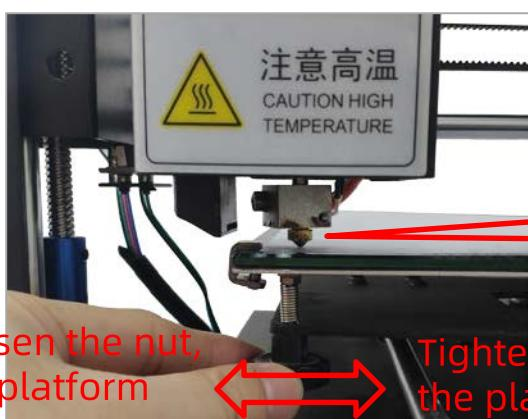

Figure 9
Step 4. Tighten or loosen the adjustable nut underneath to adjust the distance between the nozzle and the platform to about the thickness of the paper(~0.1-0.2mm, the nozzle just touches the platform), as shown in Fig.9. You need to adjust the adjustable nut until you feel the drag resistance when pulling the paper back and forth. (Note: "feel the drag resistance" means the paper can be moved, but with resistance)